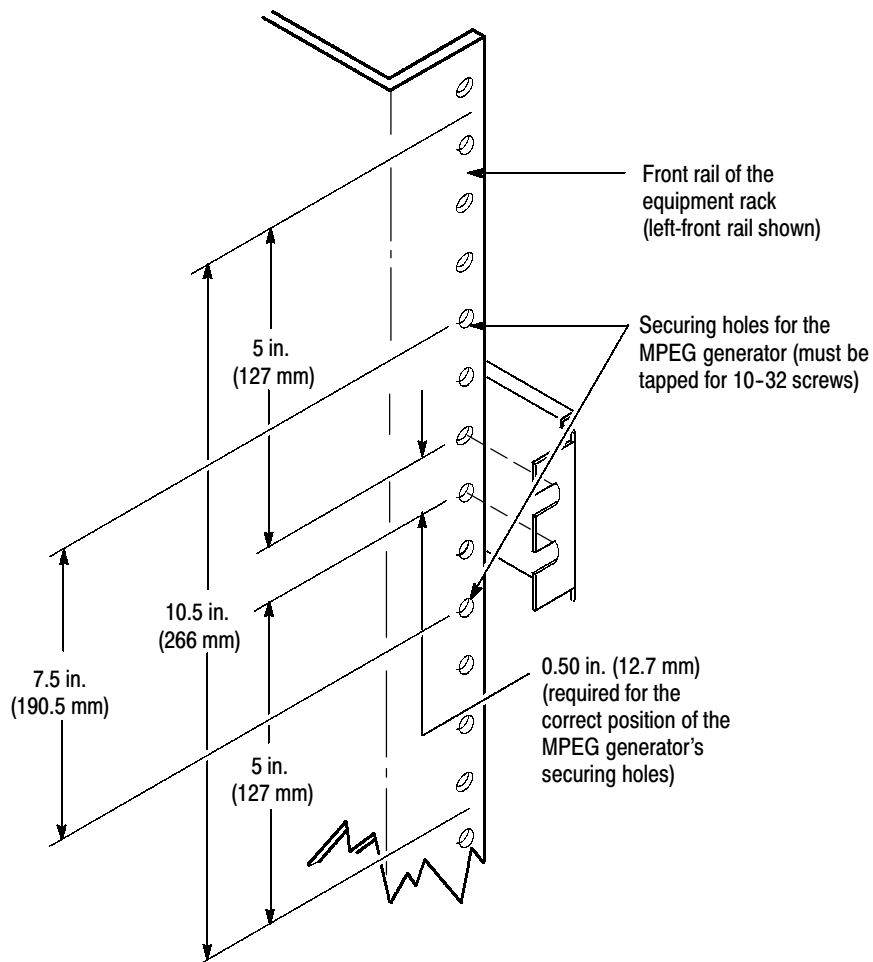

Figure 7: Required vertical clearances for rack installation
- b. Verify that the 5 inch and 10.5 inch clearances exist relative to those mounting holes. See Figure 7.